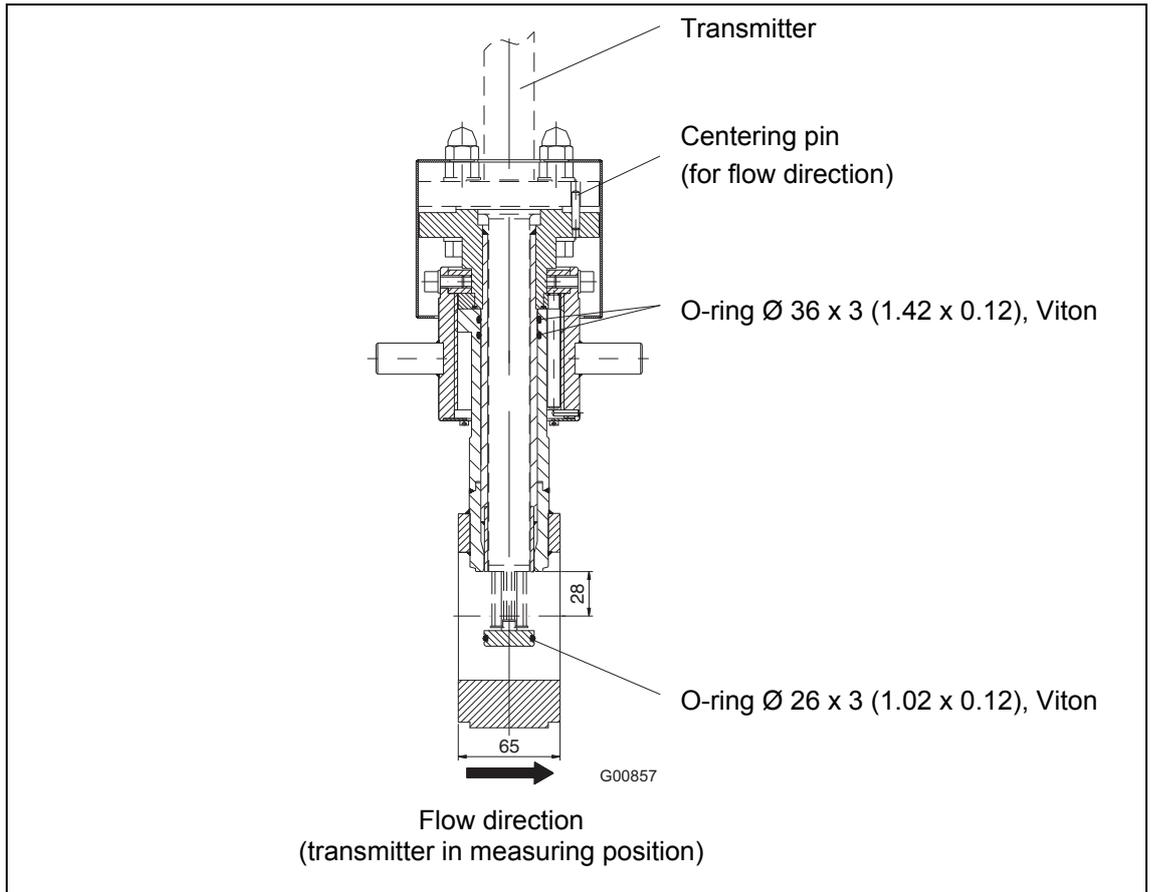

Fig. 16: Dimensions in mm (inches). Hot tap fitting with wafer design
- Replace the two internal Viton 36 x 3 mm (1.42 x 0.12) O-rings of the fitting and the Viton 26 x 3 mm (1.02 x 0.12) O-ring of the guide tube (see Fig. 16). Lightly lubricate the O-rings as well as the threads of the lock nut and slip ring of the guide tube. For oxygen applications, only approved O2 fittings grease may be used (e.g., Krytox GPL-226).